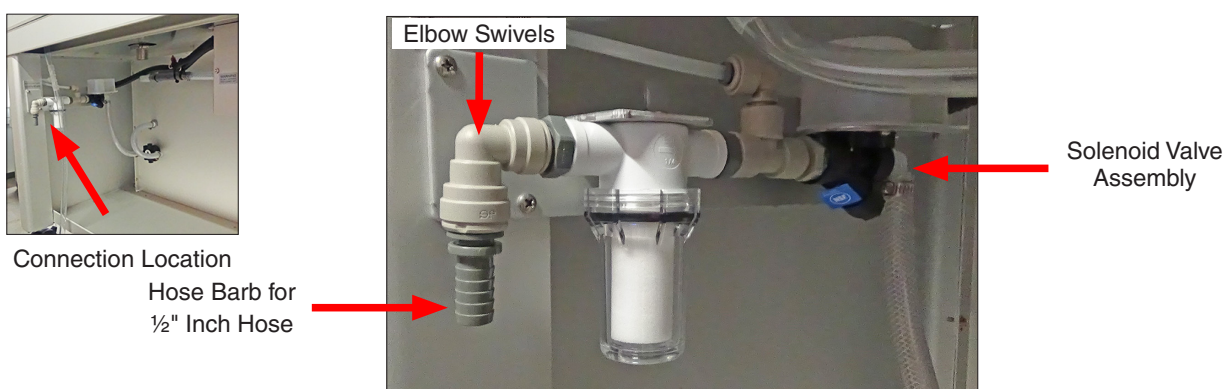
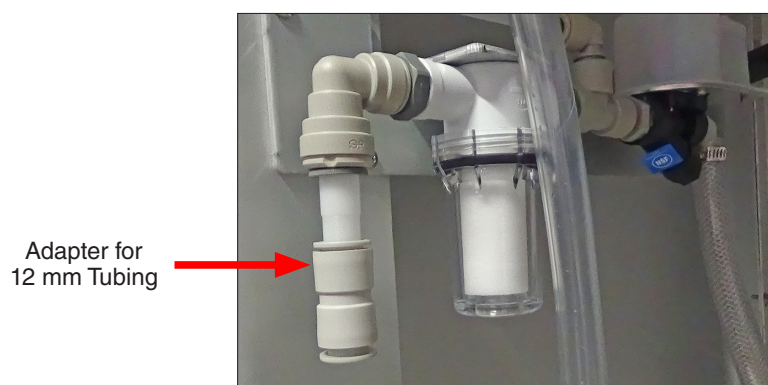

Figure 6.4d: Hose barb for ½" inch water supply hose.
Figure 6.4f: Tube adapter for 12 mm water supply tube.
- Three options are available to connect the water supply to the QUV/spray (see Figure 6.4d through Figure 6.4f).